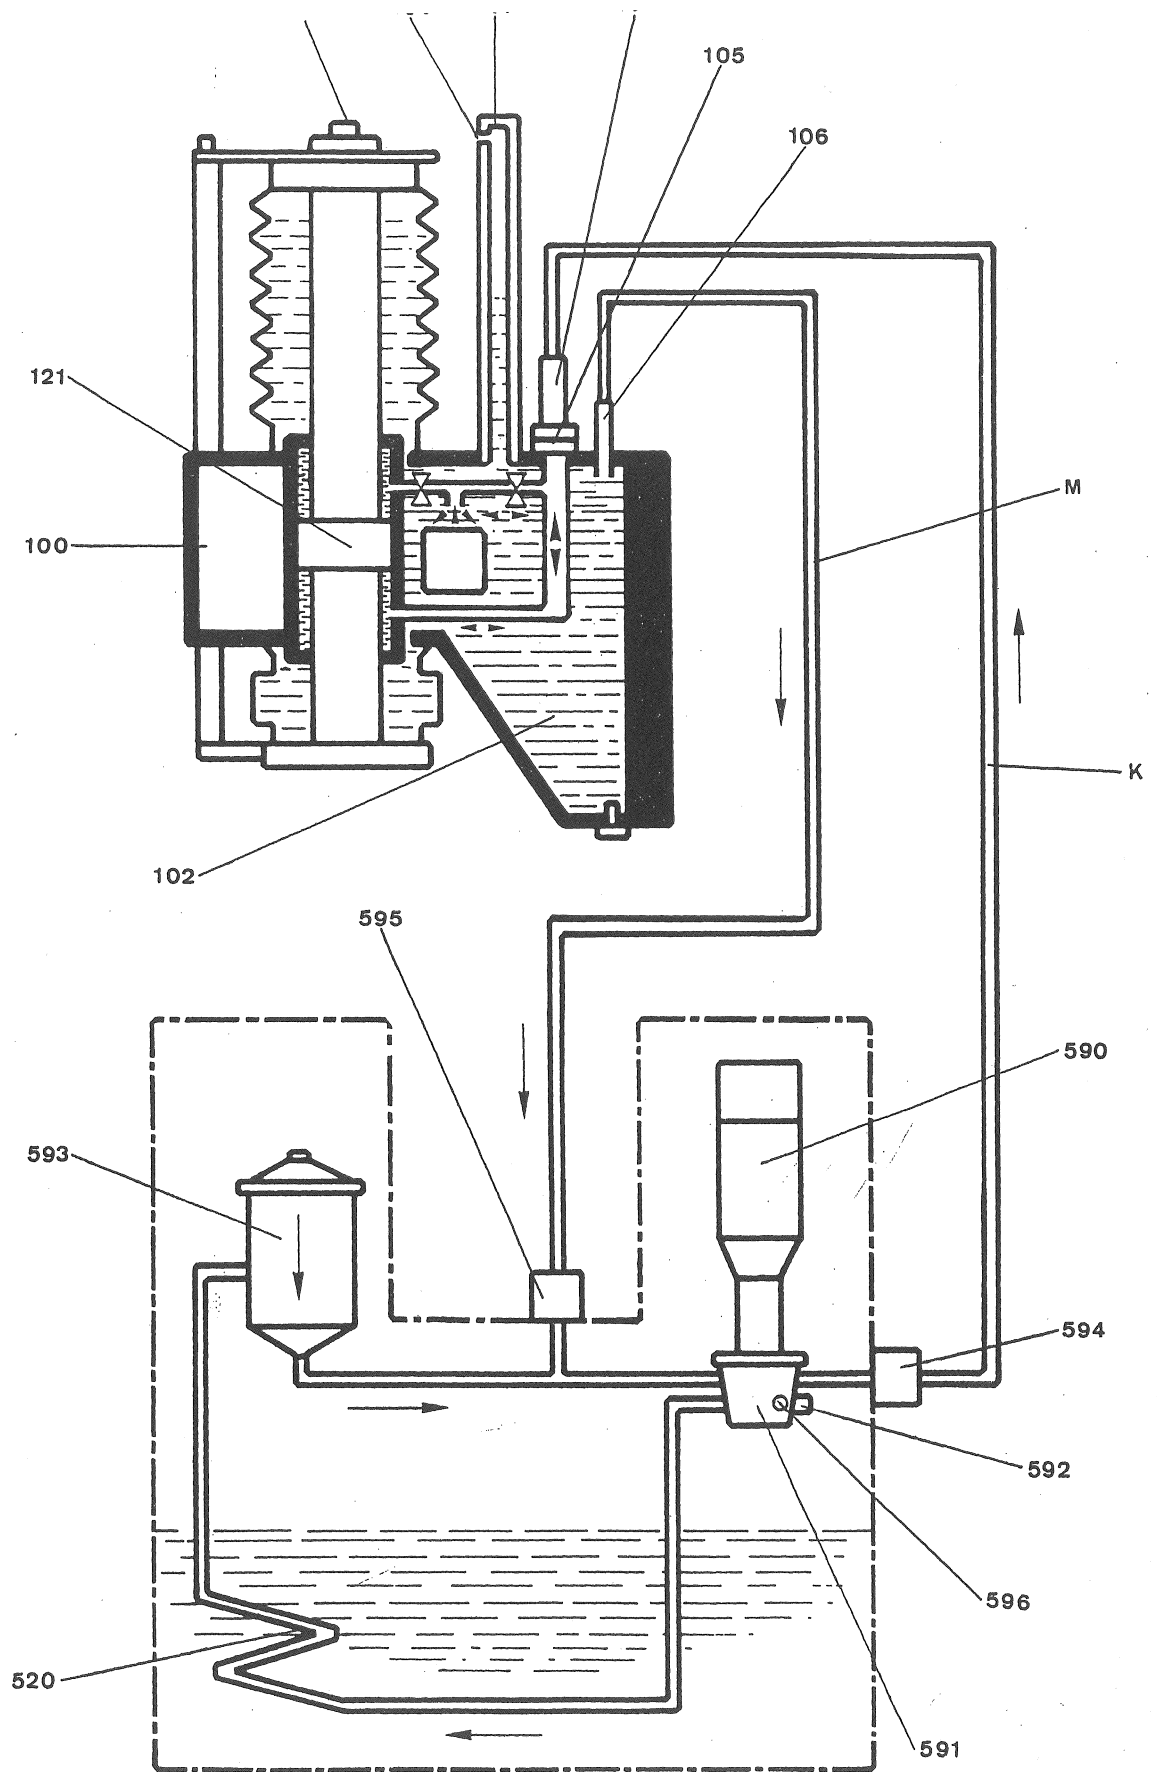

Fig 1
8.10 DIELECTRIC CIRCUIT (figs. 1 & 2)
- 523 Solenoid-valve of the cooling circuit, controlled by thermostat (522).